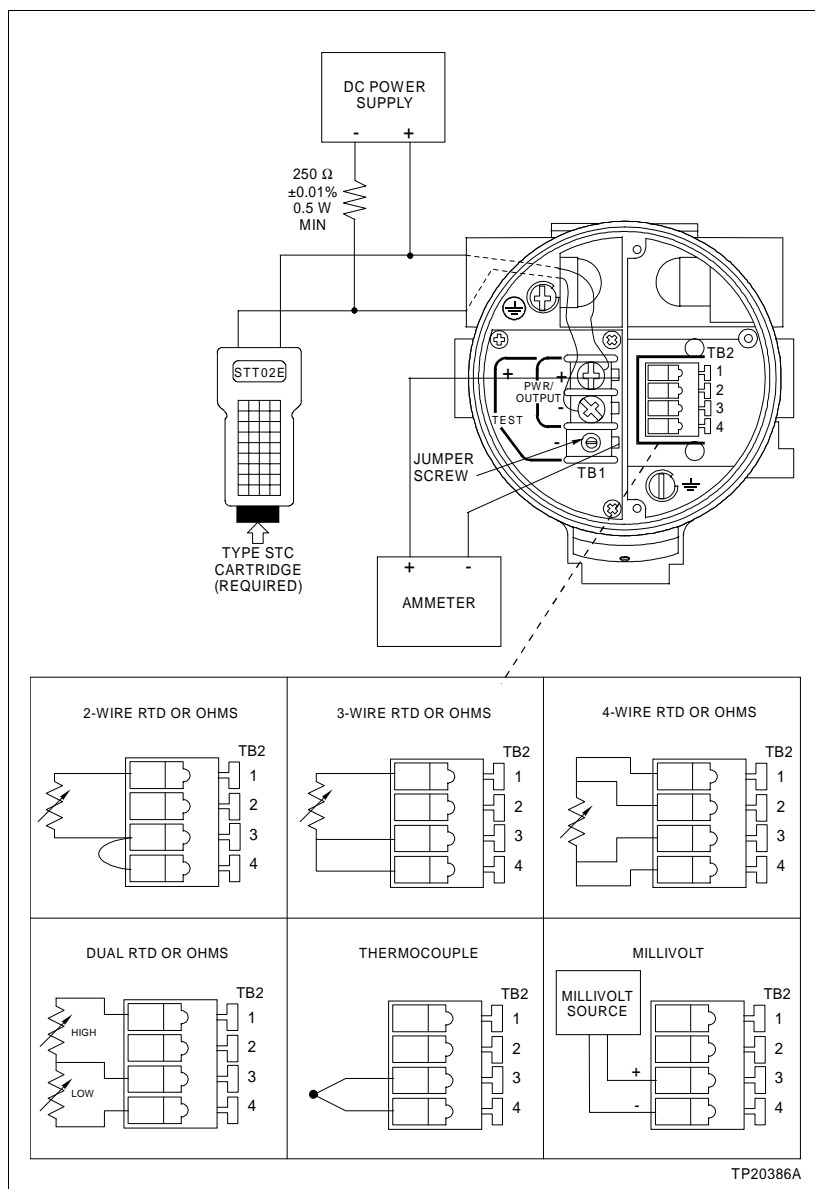

Figure C1-1. Calibration Setup (Typical)
Use this procedure for checking transmitter calibration before installation or after replacement of components. If the check indicates an improper calibration, continue with the calibration sequence as shown in Figure 4-1. Refer to Figure C1-1 for a typical calibration setup and the sensor connections.
2. Loosen the jumper screw ½-turn from the **TEST** terminals (Fig. C1-1).
4. Connect the field wiring terminals of the transmitter in a calibration setup as shown in Figure C1-1.
5. Connect the input for the desired sensor as shown in Figure C1-1. (Refer to Installation Job Sheet I8 to remove and install the sensor wires.)